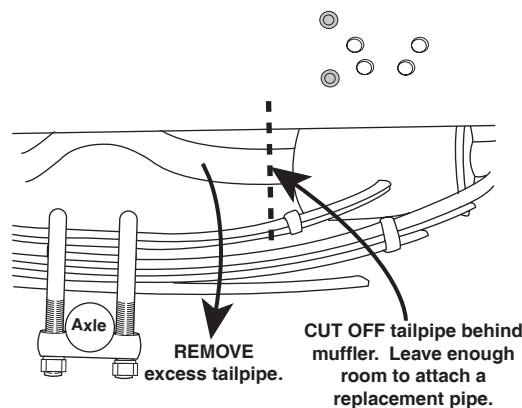

Figure 3
3. Cut off the tailpipe behind the muffler and remove. Leave enough room on the muffler to install a replacement pipe (Figure 3).